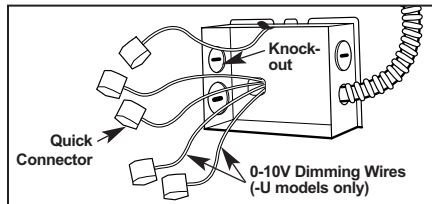

Figure 8
Step 2. Remove wiring box cover. Remove the appropriate knock-out(s) to accommodate the type of electrical supply being used (Fig. 8):
Step 3. Strip supply wire 3/8" and insert each supply wire into appropriate connector. Connect black fixture wire to hot, white fixture wire to neutral and green fixture wire to ground. (Fig. 8).